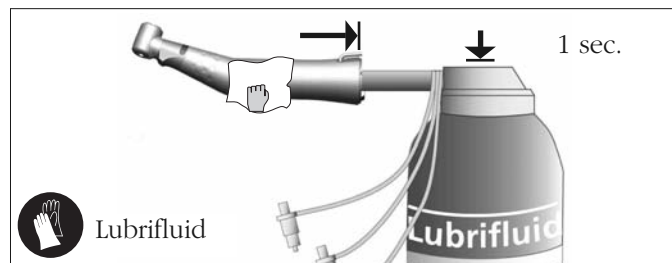

fig. 6
- Spray for about 1 second **fig. 6**.